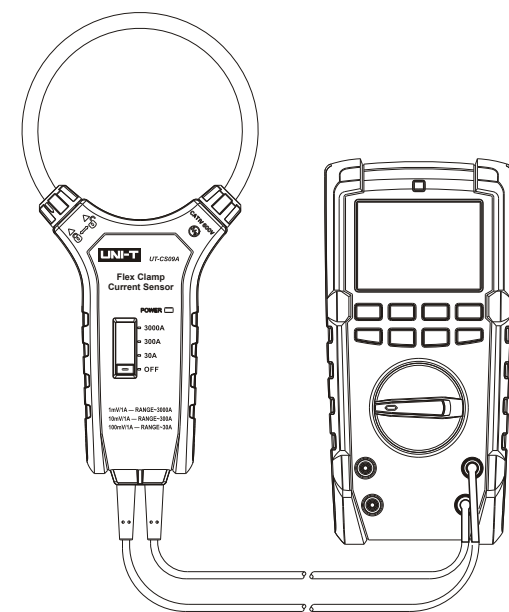

Figure 2
1. Connect the sensor with alternating voltage measure device e.g. multimeter. (see figure 2)